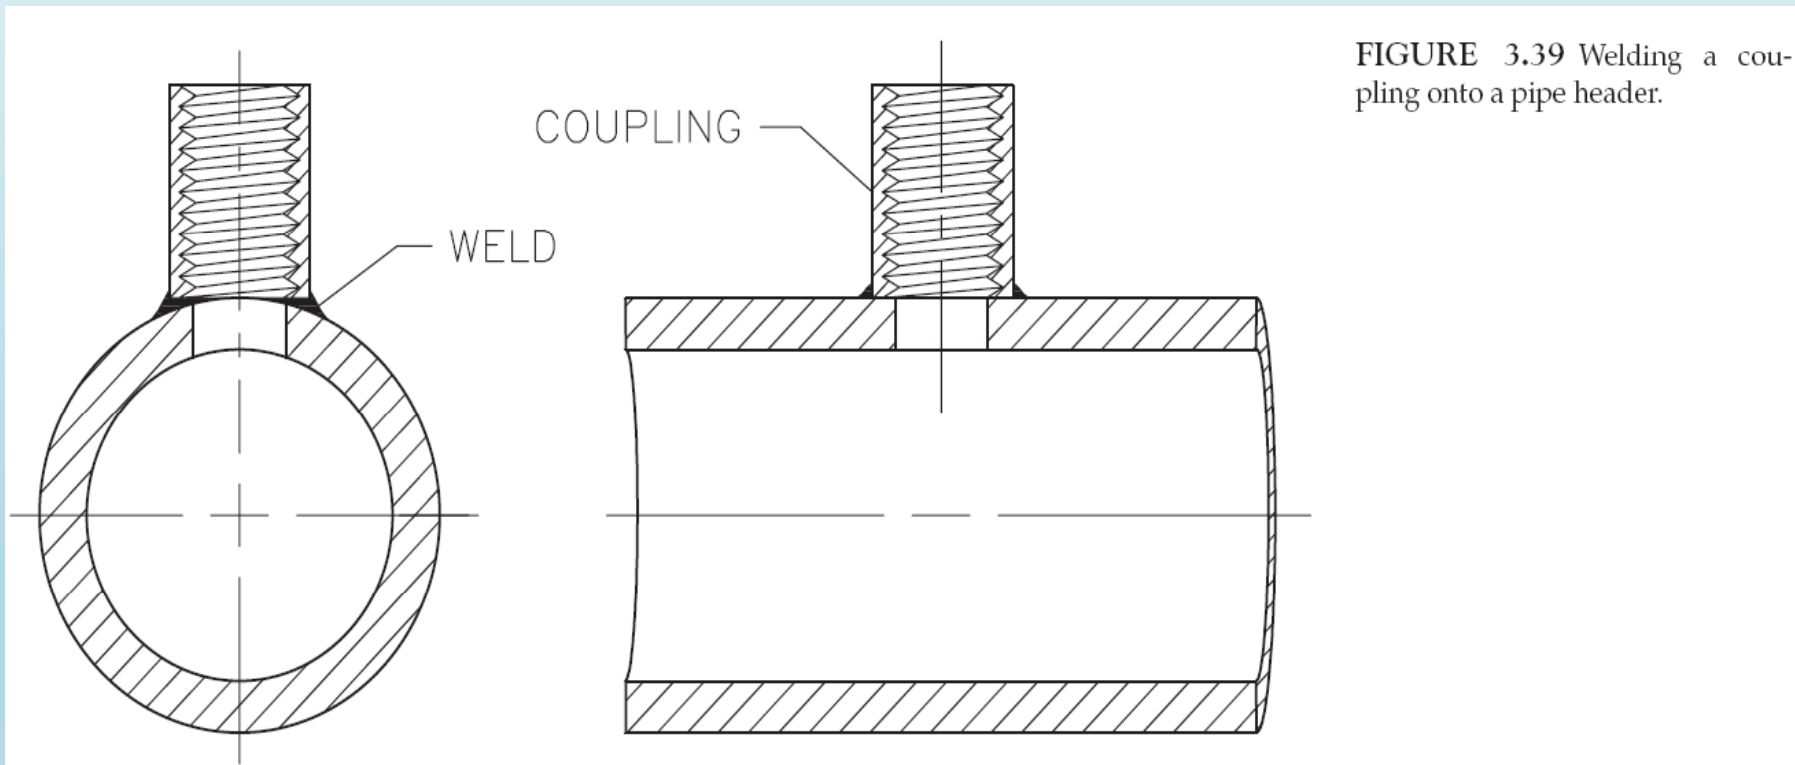

FIGURE 3.39 Welding a coupling onto a pipe header.
1. The coupling rests on the external surface of the pipe header and is welded from the outside (see Figure 3.39).